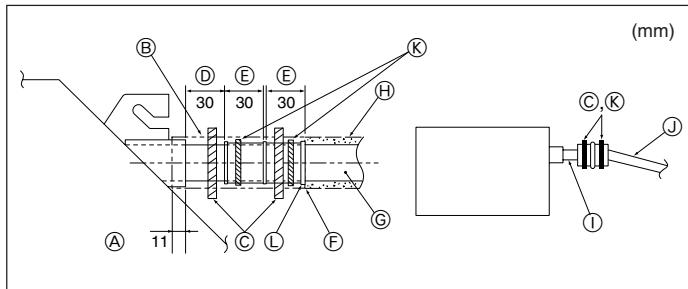

Fig. 6-2
- Connect the drain socket (supplied with the unit) to the drain port. (Fig. 6-2)